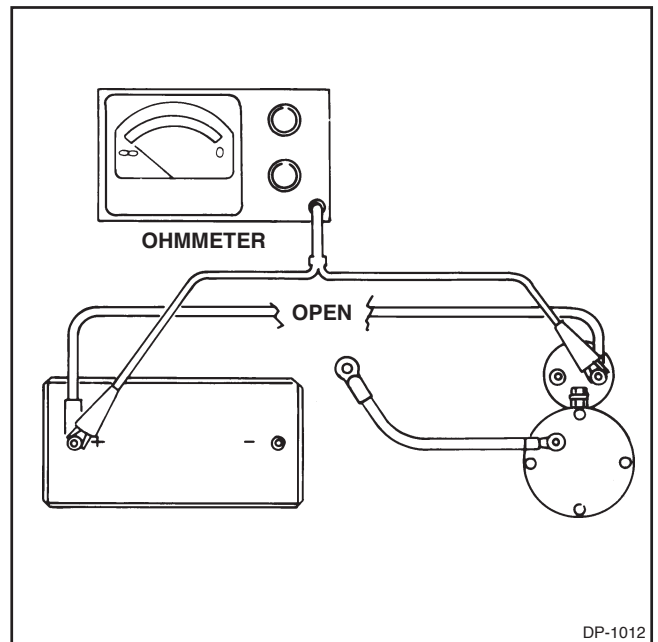
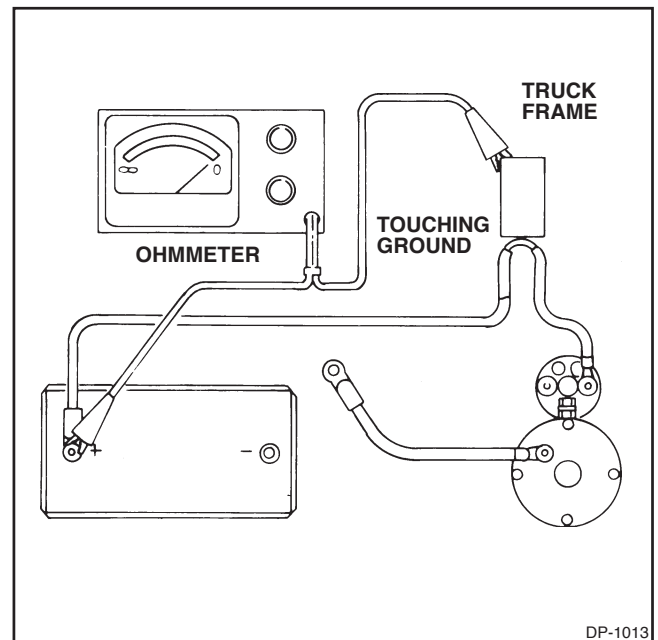
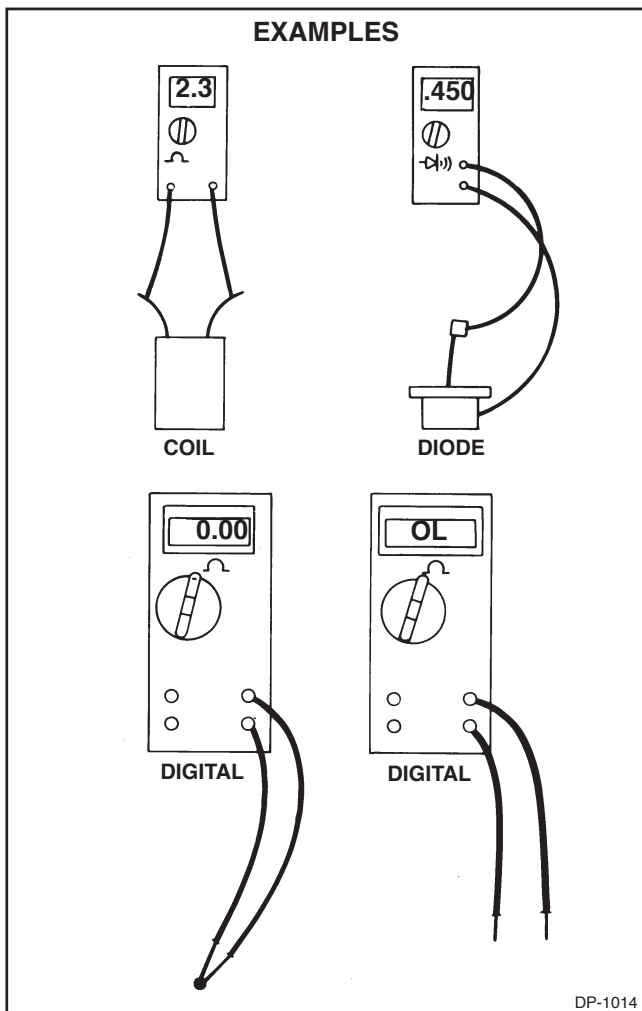

Figure 1-12. Analog Ohmmeter Showing Open Circuit
Figure 1-13. Analog Ohmmeter Showing Continuity
Figure 1-14. Digital Ohmmeter
**1-22. OHMMETER USE.** Figures 1-12 through 1-14 illustrate some typical uses of the ohmmeter.
**1-23.** As shown in Figures 1-12 and 1-13, the ohmmeter is also useful as a continuity meter. An infinite ohmmeter reading (See Figure 1-12) indicates an open circuit (no continuity). A very low (approaching zero) reading (See Figure 1-13) indicates continuity. Figure 1-14 illustrates some digital ohmmeter applications.